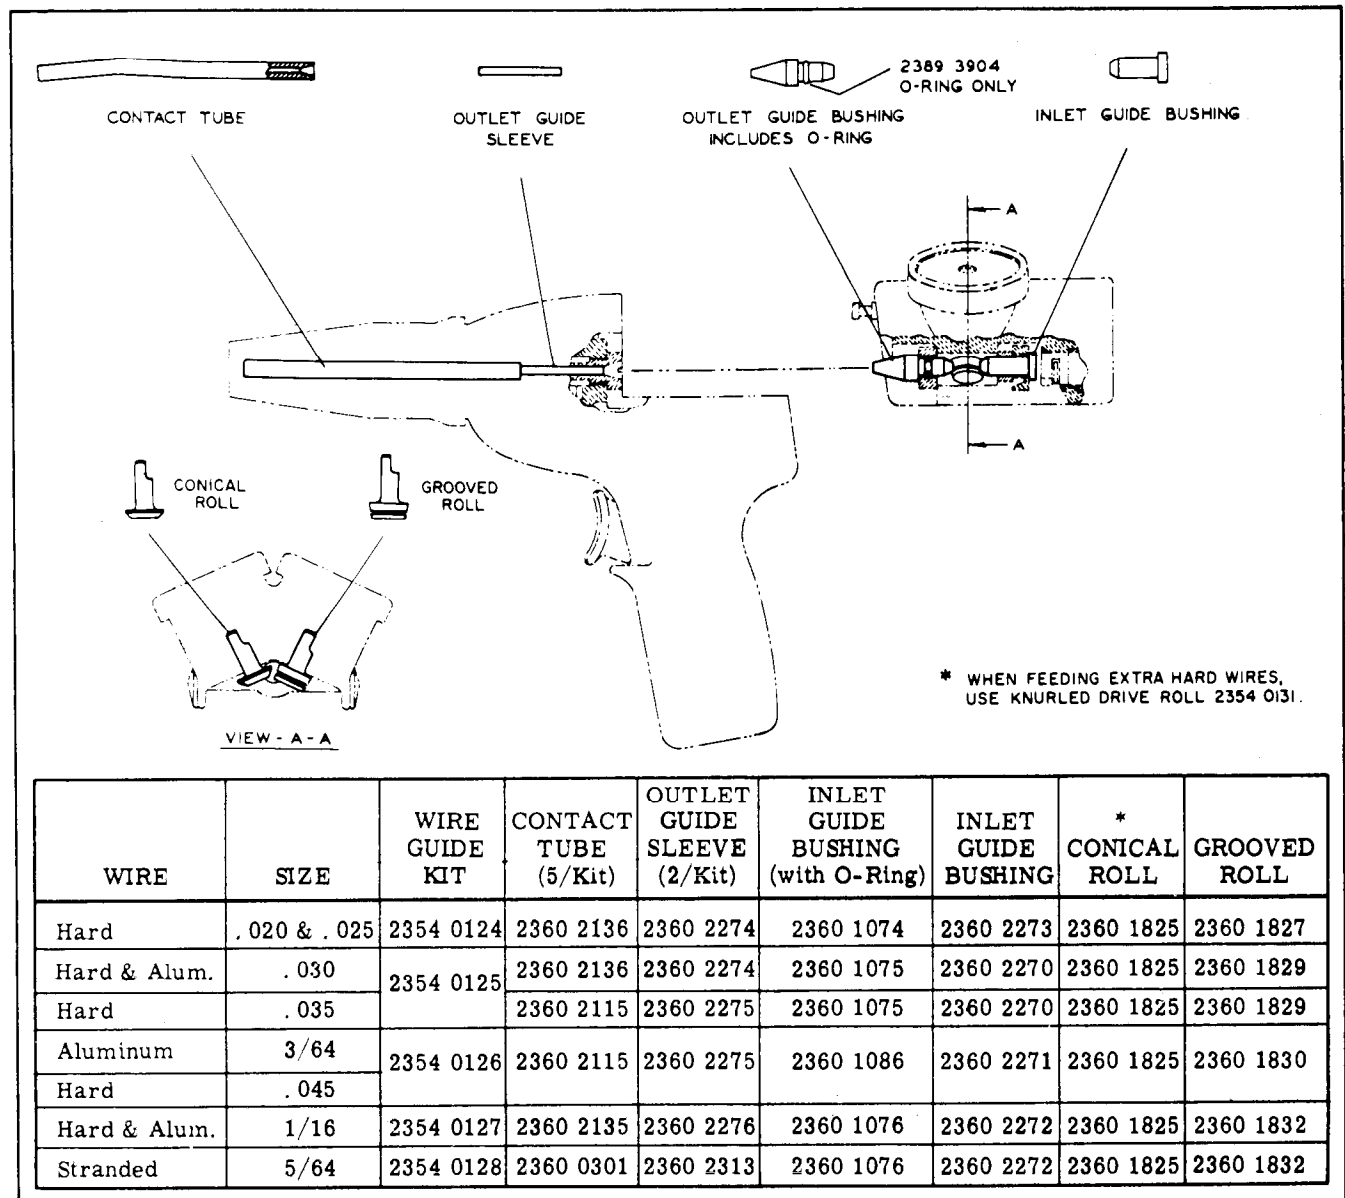

Figure 8. Wire Guide Fittings
Items required to adapt the Gun for any particular job are called accessories. These include contact tubes, inlet and outlet guide bushings, and drive rolls to suit the type and size of welding wire used, as shown in Figure 8 of Section II.
Install wire guide fittings (Fig. 8) in drive roll housing as follows:
i. Slip drive roll outlet guide bushing (Fig. 8) over protruding wire and seat in crossbar opening.